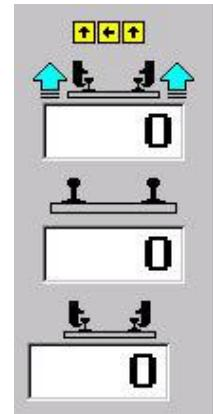

Figure 4-59
**NOTE:** Once zero setup has been selected, the pop out information panel (figure 4-59) will appear showing lift, superelevation and line at the shadowboard determined from current beam position and the inclinometer reading. If the values displayed on this panel are large, it may be desirable to move the machine slightly (if possible) before pressing ENTER.